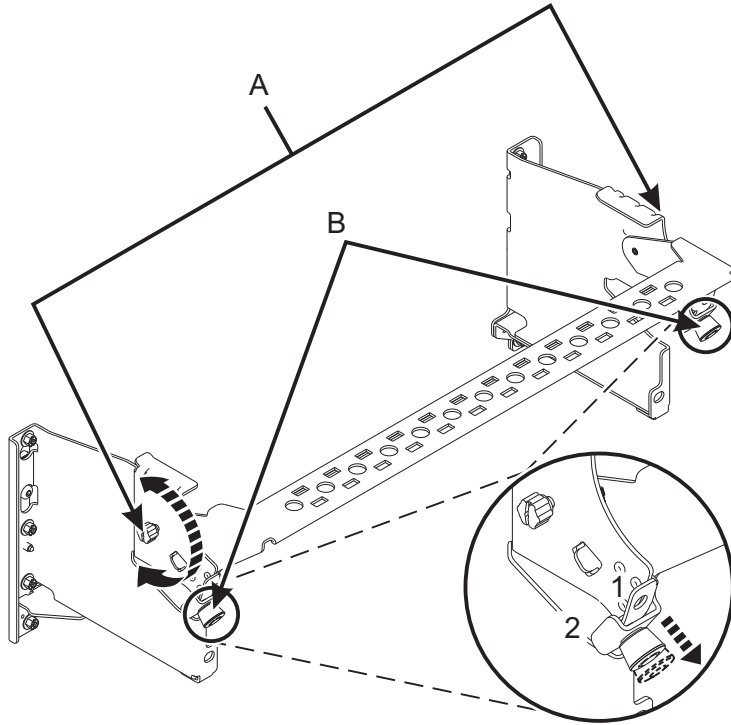

Figure 24. Placing the cable management bracket in the operating position
6. Put the cable management bracket in the operating position. See Figure 24 on page 23.